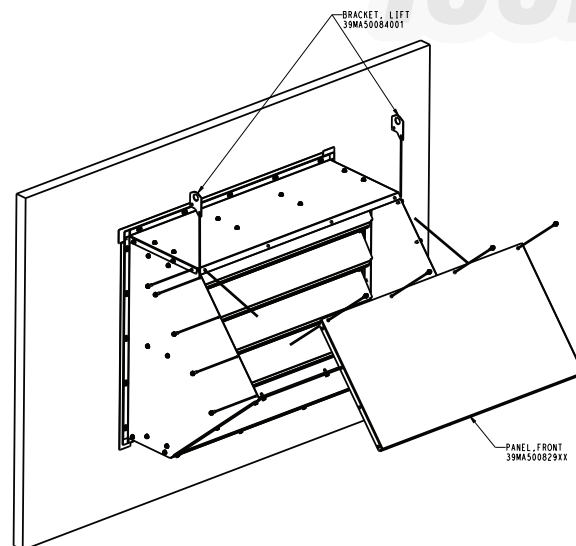

Fig. 77 — Attaching the Front Panel and Lifting Brackets
14. Attach front panel to power exhaust assembly using the $\frac{1}{4}$ in.-14 x $\frac{5}{8}$ in. long sheet metal screws (without neoprene washer.) Also, attach the lifting brackets to each side of the top of the assembly using the $\frac{1}{4}$ in.-14 x $\frac{5}{8}$ in. long sheet metal screws (without neoprene washer.) See Fig. 77.